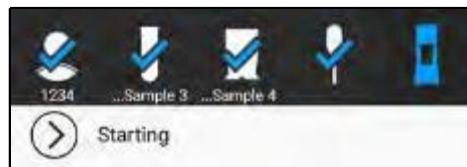
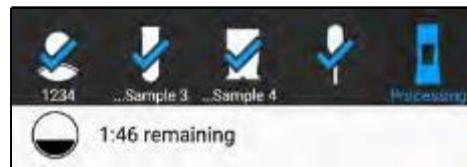

Figure 14. Test Starting Screen
Figure 15. Test in Progress Screen
3. With the cartridge label facing the operator, load the cartridge onto the cartridge platform. Gently push the cartridge in place to allow the instrument to pull the cartridge. Remove hands immediately from instrument after loading cartridge. The door will close automatically, the test starts, and the screen shows the test is starting (see Figure 14). The screen changes to the test in process and the time remaining (see Figure 15). When the test completes, the instrument door opens, and the screen provides the test result. At the bottom of the screen, tap **Print Result**.